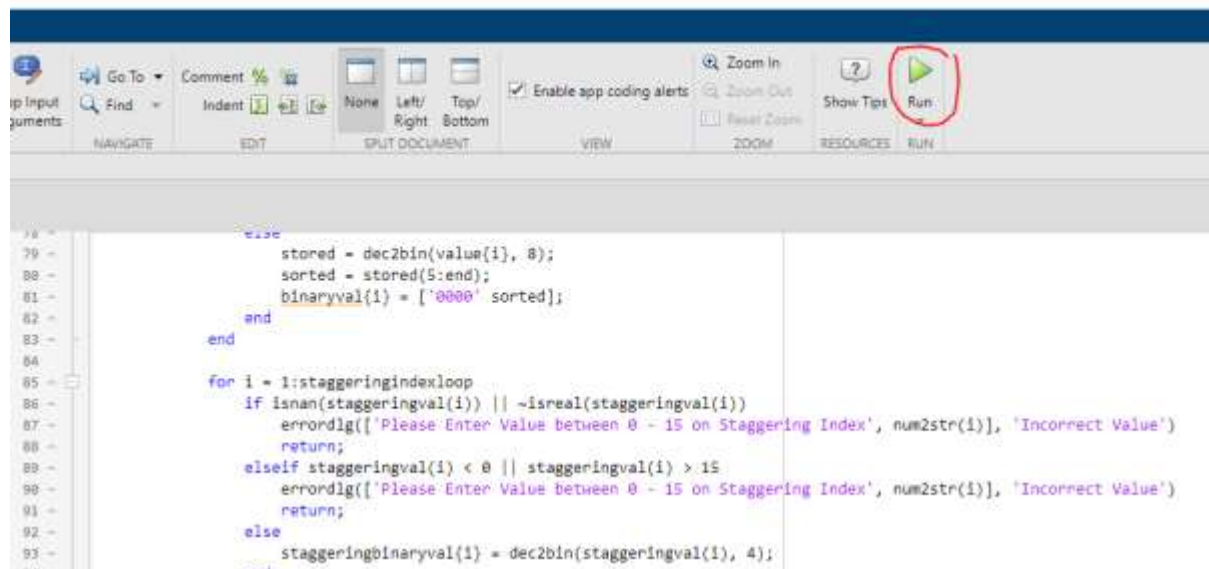

Figure 21: Run Button To Start GUI
- To Run the GUI, Need to Press Green Start button as shown in Figure 21.